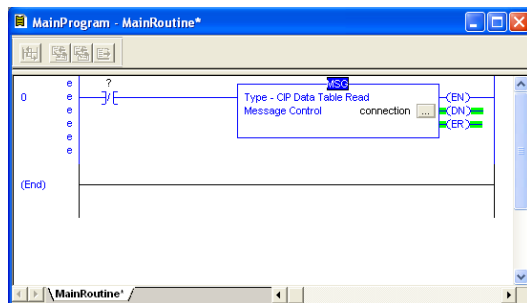

Figure 61: MainRoutine
- e) Click “OK” to close the MSG Configuration dialog. At this stage, MainRoutine should look like Figure 61.